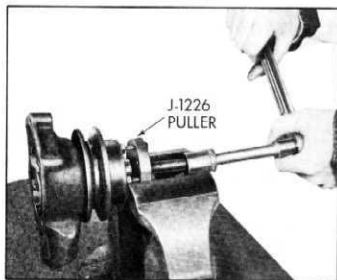

Fig. 124—Removing Water Pump Pulley
3. Place puller plate in vise (fig. 124) and tighten puller screw to remove pulley. Remove tool from pulley.